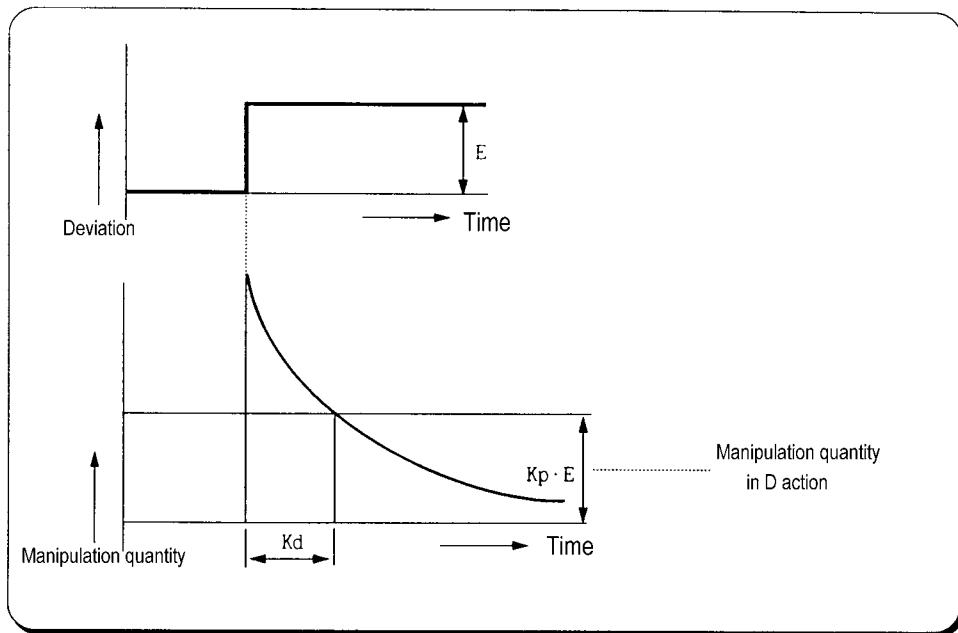

Fig. 7.6 Derivative action with a constant deviation
- ① When a deviation occurs due to alteration of SV or external disturbances, D action restrains the changes of the deviation by producing MV which is proportioned with the change velocity (a velocity whose deviation changes at every constant interval) in order to eliminate the deviation.
- ② D action gives quick response to control action and has an effect to reduce swiftly the deviation by applying a large control action (in the direction that the deviation will be eliminated) at the earlier time that the deviation occurs.
- ③ D action can prevent the large changes of control object due to external conditions.
- ④ The period of time from when the deviation has occurred to when the MV of D action become the MV of P action is called derivative time and represented as  $T_d$ .
- ⑤ The D action when a constant deviation occurred is shown as Fig. 7.6